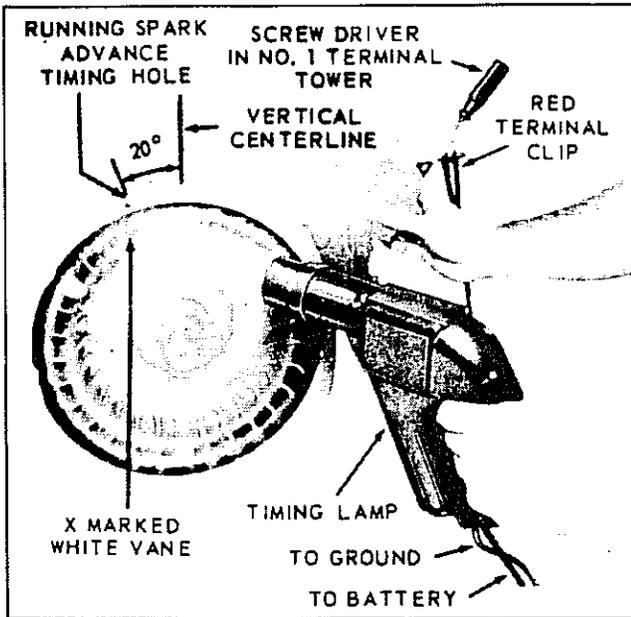

FIG. 15
7.1.4 NEON LAMP TIMING (Fig. 15)